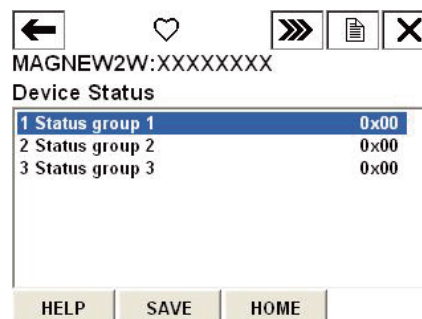

Fig. 7-90.
- Fig. 7-90. will then be displayed.